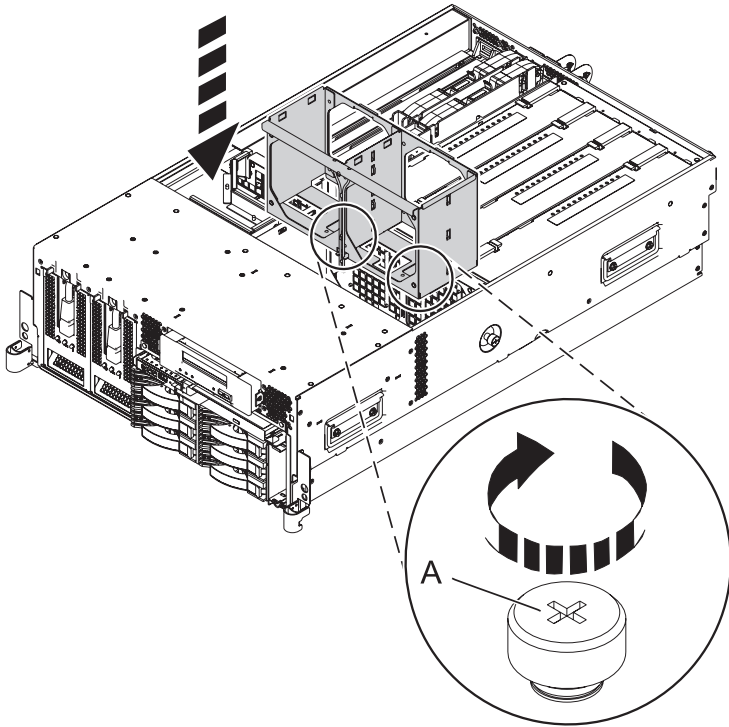

Figure 17. Installing the fan cage in the 8204-E8A or 9409-M50 system
- 1) To Install the fan cage **(A)** into the system, align the locator pins through the holes, and tighten the two thumbscrews **(B)**, as shown in Figure 17 on page 24.